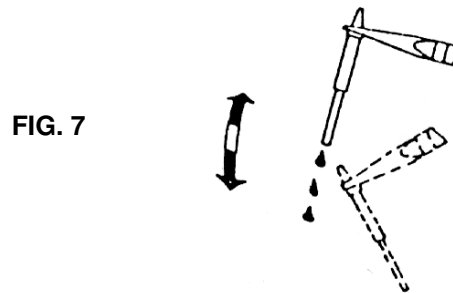

FIG. 7
6. Remove the stainless tube and shake loose the molten solder. The tip should now be unclogged (fig. 7). Put the tip back in place and screw down the barrel nut assembly. Do not screw it down too tightly !